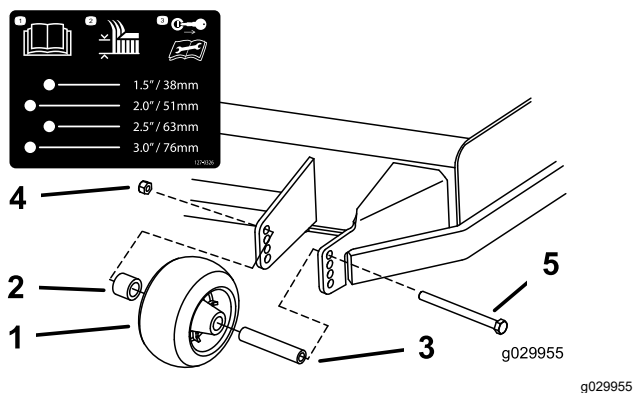
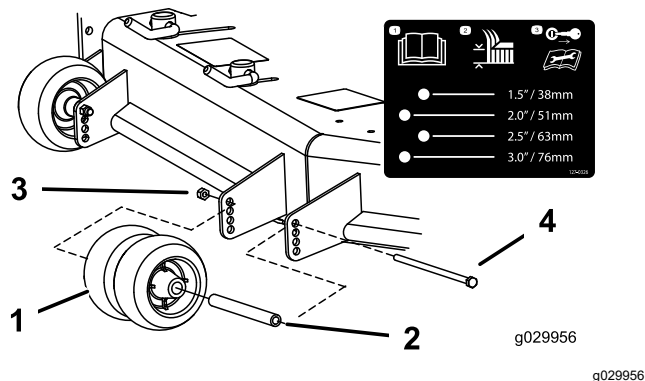
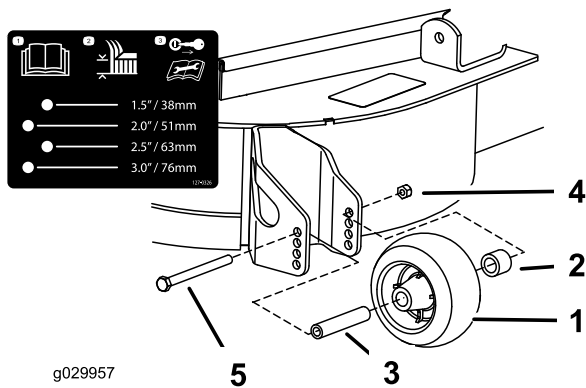

Figure 33
Figure 34
Figure 35
3. Adjust the anti-scalp rollers as shown in Figure 33, Figure 34, and Figure 35.